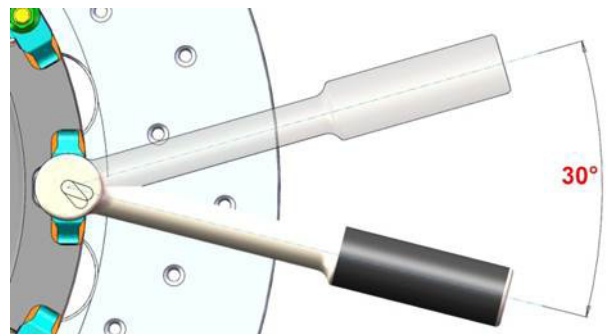

Fig 5. Turn 30° ±2°
Step 6: Continue to turn the nut for a further 28-32°. (Fig 5.)